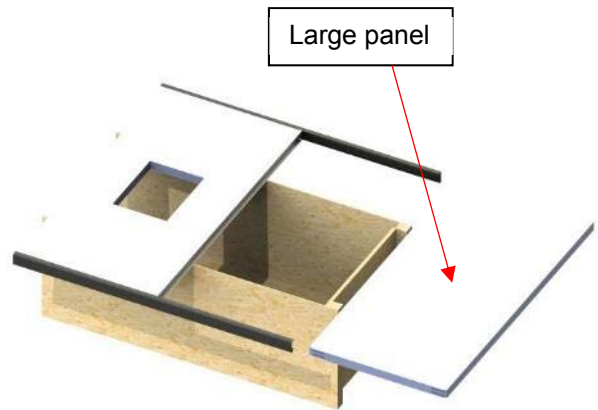

Figure 12
10) Slide the large (approx. 47" x 96" [119 cm x 243 cm]) panel into the C-channels. Ensure the I-beam has slid over the panel on both the bottom and top side (Figure 12).